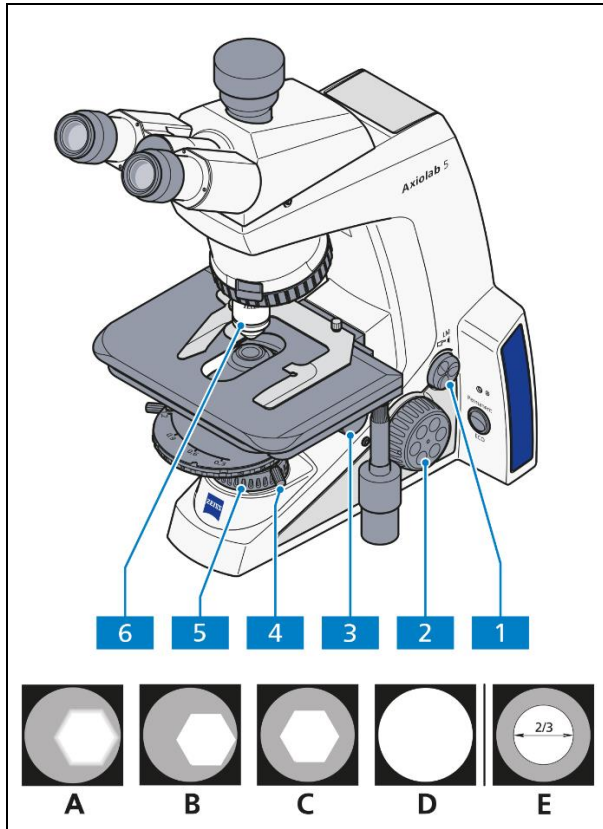
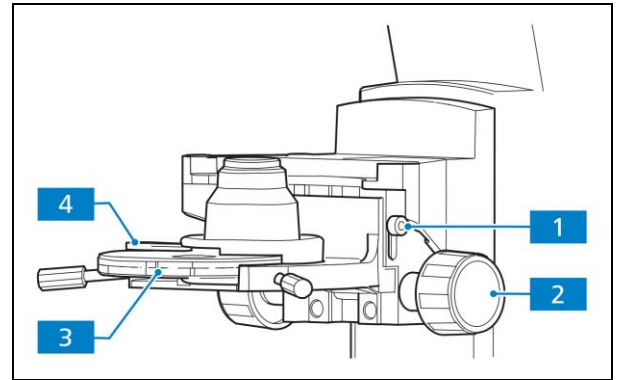

Fig. 4-3 Microscope settings in transmitted light brightfield microscopy
Fig. 4-4 Setting the height stop on the condenser carrier
(3) Configuring transmitted light brightfield microscopy using the KÖHLER method
- Adjust the image brightness using the Intensity/LM knob (Fig. 4-3/1) on the microscope stand.
- If condensers with a swiveling front lens are used, swivel these into the beam path with $\geq 10x$ objectives and set the condenser with the knurled knob for vertical adjustment (Fig. 4-3/3 or Fig. 4-4/2) to the upper stop. The stop must be adjusted so that the specimen is not lifted by the condenser (to set the condenser stop, see section 4.2.1 (4)).
- When using condensers with a turret/modulator disk and knurled ring (Fig. 4-4/3), set position **B** (or **H** = brightfield).
- Swivel in the 10x objective on the nosepiece (Fig. 4-3/6) and use the focus drive to focus on the specimen (Fig. 4-3/2).
- Close the luminous-field diaphragm (Fig. 4-3/5) until it is visible (even if not in focus) in the field of view (Fig. 4-3/A).
- Turn the vertical control of the condenser drive to lower the condenser until the edge of the luminous-field diaphragm appears in focus (Fig. 4-3/B).
- Center the luminous-field diaphragm using the two centering screws (Fig. 4-3/4) on the condenser carrier (Fig. 4-3/C) and then open the luminous-field diaphragm until the edge of the diaphragm just disappears from the field of vision (Fig. 4-3/D).
- To adjust the aperture diaphragm (contrast), remove an eyepiece from the eyepiece tube and look into the tube with the naked eye. Set the aperture diaphragm with the adjusting lever (Fig. 4-4/4) to between $2/3$ - $4/5$ of the diameter of the exit pupil of the objective (Fig. 4-3/E). In most applications, this aperture diaphragm setting provides optimal contrast at almost ideal resolution, and is therefore the best compromise for the human eye.
(4) Setting the height stop on the condenser carrier
- Loosen the fastening screw (Fig. 4-4/1) of the height stop using an Allen wrench (AF 3).
- Close the luminous-field diaphragm and focus it by turning the vertical control (Fig. 4-4/2) of the condenser.
- Tighten the fastening screw (Fig. 4-4/1) of the height stop.